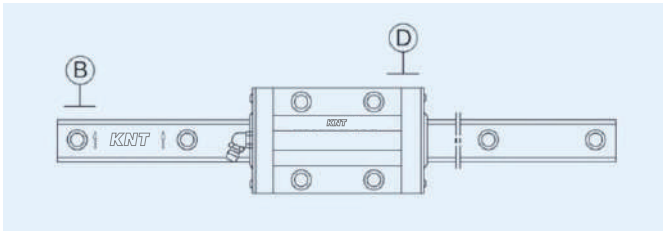

Figure 9
3. Recognition of datum plane: The datum plane (B) of rail is the side indicated by the arrow, which is marked on the top surface of the rail. The datum plane of block is smooth ground surface which shows as D in Figure 9.